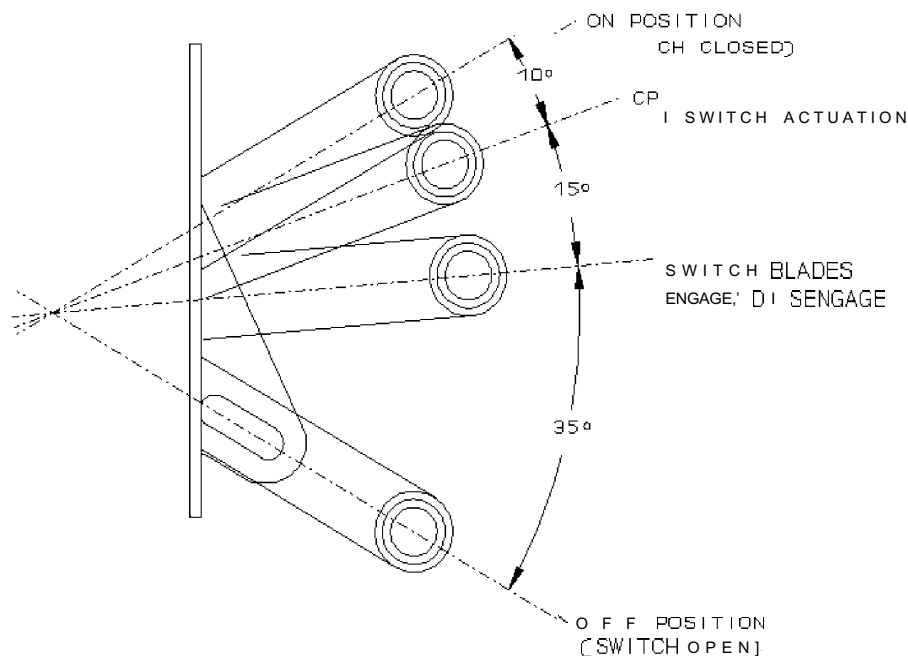

Fig. 59 Interlock Sequence Check
- ☐ Check that the CPI electrical interlock (microswitch) operates each time the handle is moved. The CPI (control power interlock) should close approximately 10° before the handle reaches the full ON position. As the handle is moved from ON to OFF, the CPI switch should open by the time the handle has moved approximately 10° or one inch (Fig. 59).